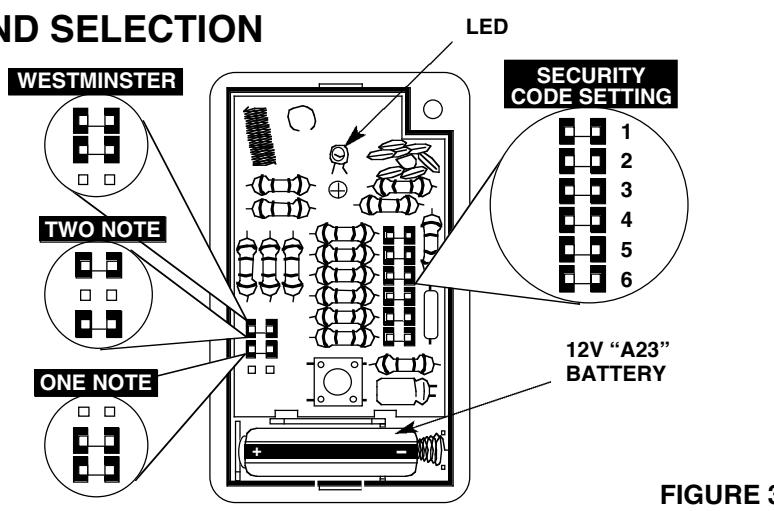

FIGURE 3
##### Refer to Figure 3.
2. Select the desired sound as illustrated in Figure 3.